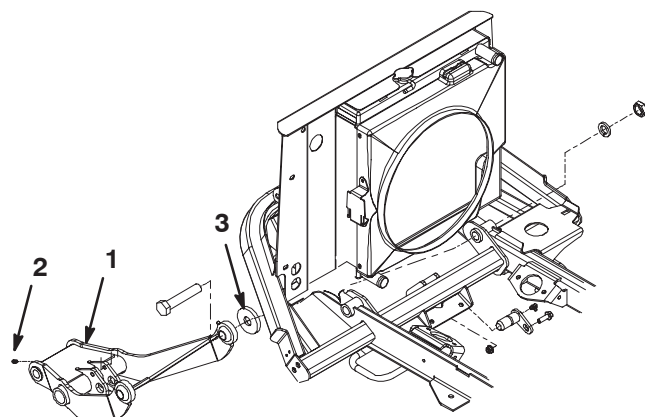

Figure 1
1. Mount the rear lift arm to the rear frame members, with 2 screws (7/8 x 4-1/2 inch), lockwashers (7/8 inch) and locknuts (7/8 inch). Position the components as shown in figure 1. Use as many washers as possible to evenly shim between the right and left sides of the lift arm and rear frame members. Torque the screws and locknuts to 382–478 ft–lb.
2. Thread the grease fitting into the rear of the lift arm (Fig. 1).